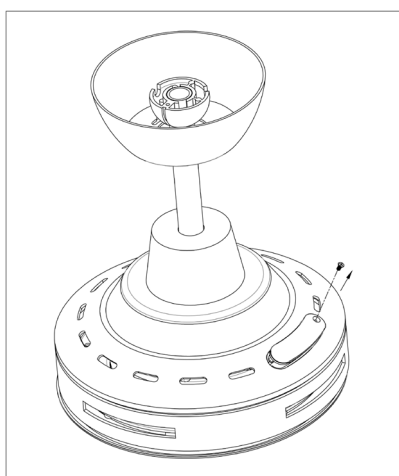

Fig.4a
1. Remove the one screw from the covering plate of blade-fixing hole. (See Fig.4a)